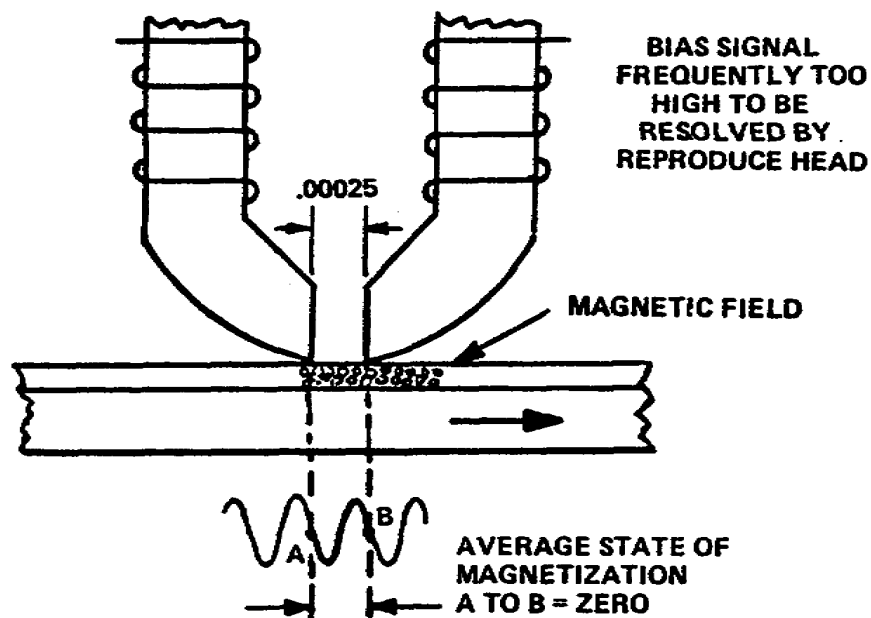

Figure 1-3. Gap effect at high frequencies
b. In Figure 1-3, note that the positive and negative portions of the cycle appear across the gap simultaneously and cancel each other. Maximum output is obtained when the recorded wavelength is twice the width of the head gap.